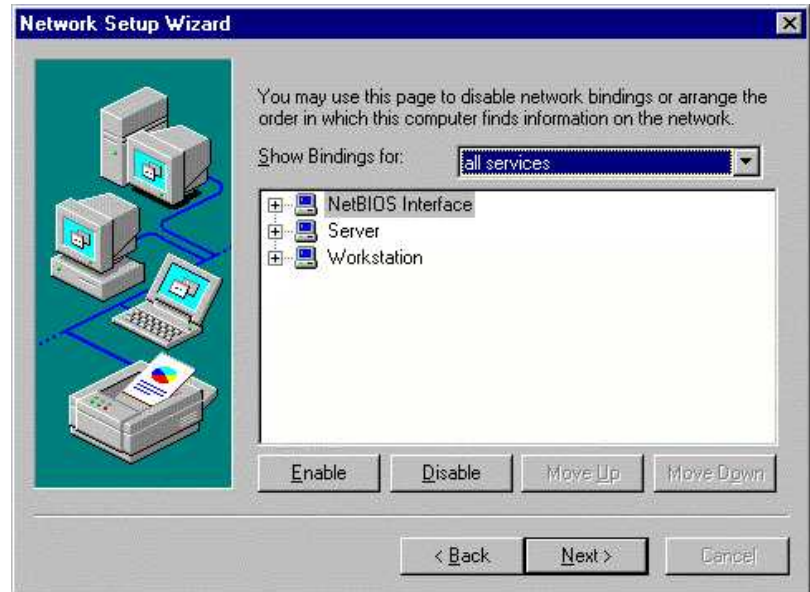

Fig. 8-25
- No changes are made in the Network Linkings dialog box (Fig. 8-25). Select "Next" to confirm.